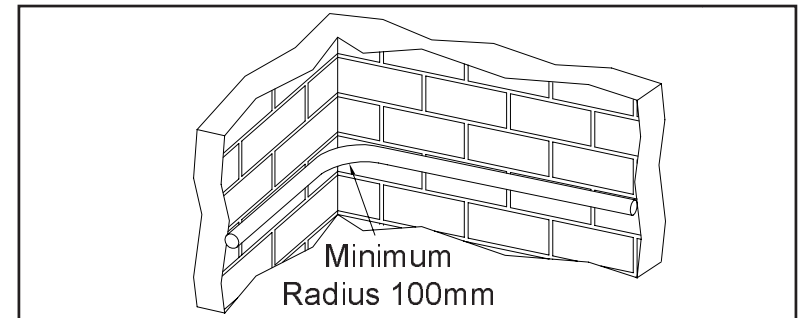

Figure 3
3. When fixing sensor within buildings, the tightest bend radius of the cable must not be less than 100mm (4"). Note that this applies to the bend radius after installation. Refer to Figure 3.